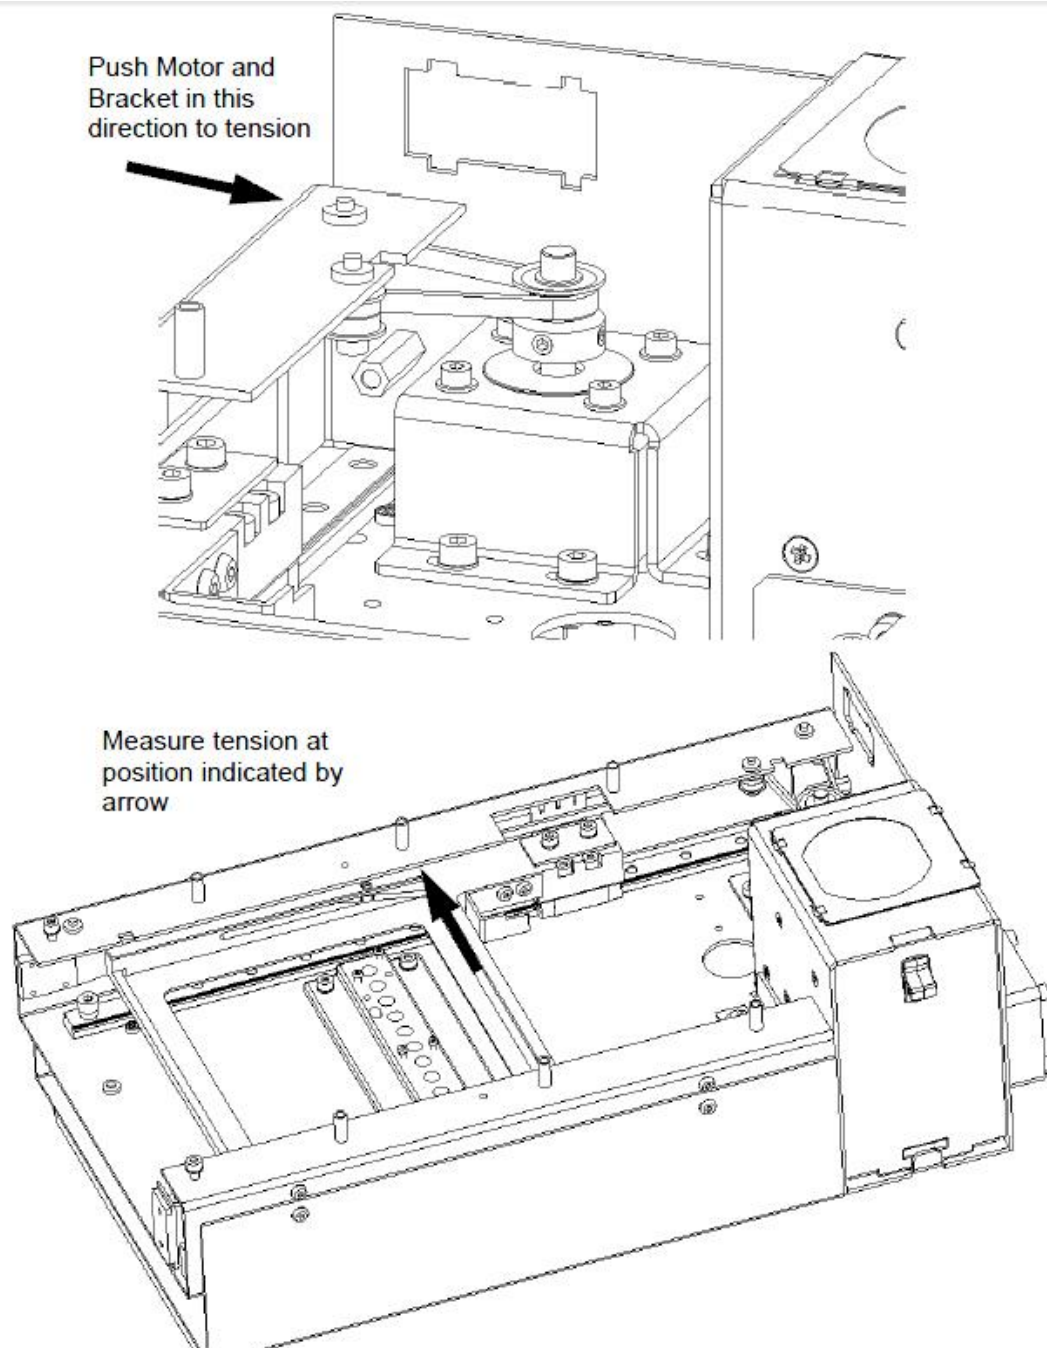

Figure N-21: Tightening the Belt
4. Position a Gates Sonic Tension Meter 507C at the positions indicated in Figure N-21. The Tension Meter must be 3-6mm away from the belt to obtain a reading.